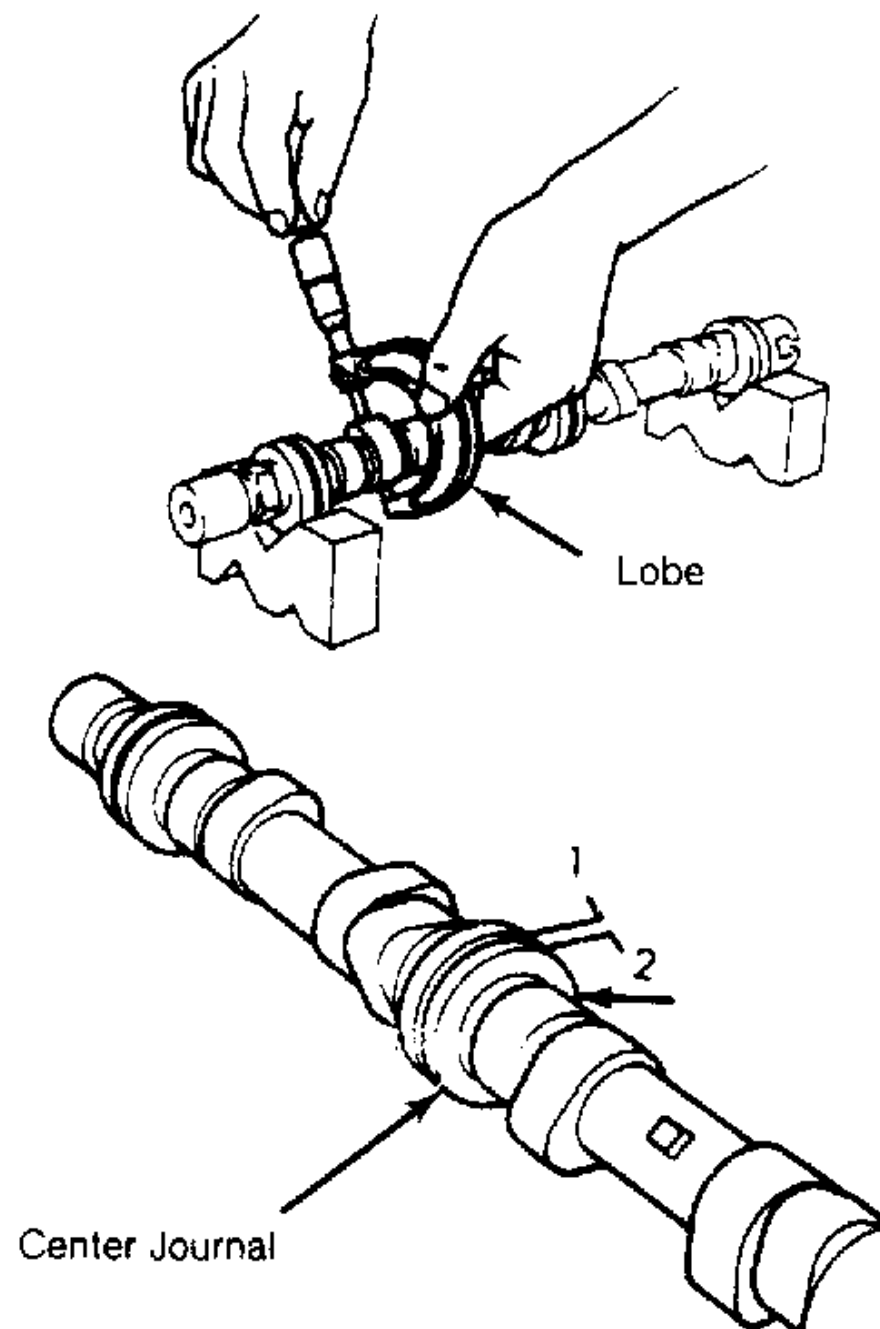

Fig. 7: Measuring Camshaft (1.3L Shown; 1.6L Similar)
2. Measure camshaft bearing journals and cylinder head bores. See Fig. 6 and Fig. 7. Subtract camshaft bearing journal O.D. from cylinder head bore I.D. to obtain oil clearance. If clearance is not within specification, replace head and/or camshaft. See, in this article, CAMSHAFT SPECIFICATIONS table under ENGINE SPECIFICATIONS tables.
2. Measure camshaft bearing journals and cylinder head bores (with bearing caps in place and torqued to specification). See Fig. 7 . Subtract camshaft bearing journal O.D. from cylinder head bore I.D. to obtain oil clearance. If clearance is not within specification, replace head and/or camshaft. See CAMSHAFT SPECIFICATIONS table under ENGINE SPECIFICATIONS at end of article.